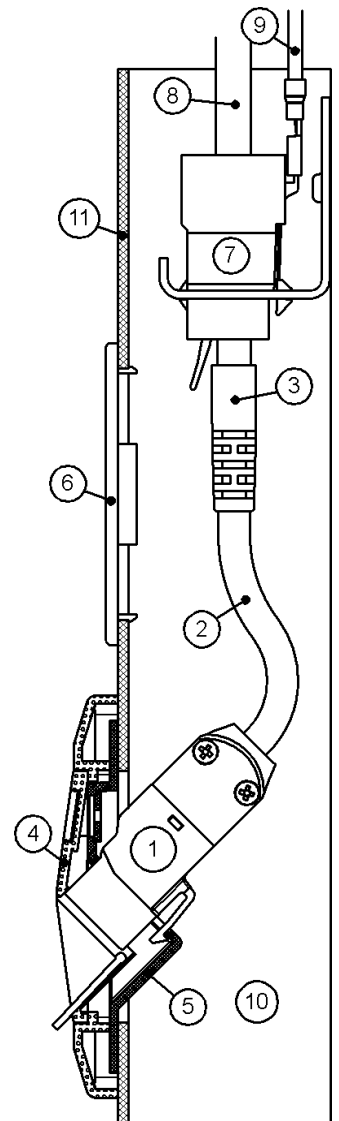
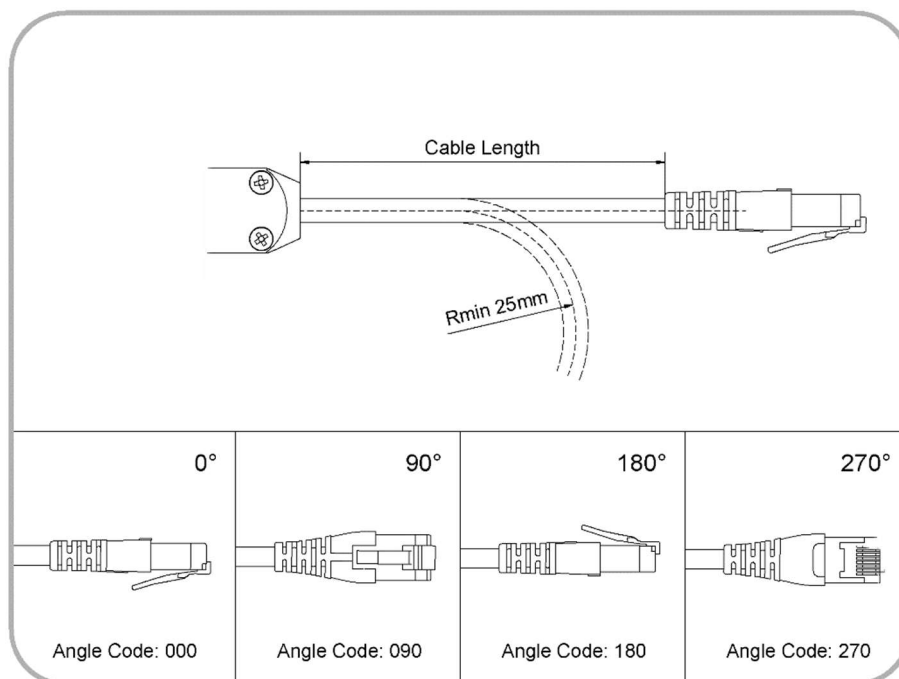

Figure 3 Keystone network isolator in a cable duct
Figure 6. Cable length, as well as angle codes.
Figure 3 shows a typical assembly within a cable duct (10), with cover (11). The Network Isolator EN-66K (1) is shown installed in a Keystone-compatible wall outlet, which usually consists of a support frame (5) and a plastic front panel (4). The RJ45 plug (3) of the Network Isolator is to be inserted into a RJ45 jack module termination (7) at the end of the permanently installed data cable (8). When retrofitting the Network Isolator EN-66K (1) into network channels, the existing RJ45 jack module from the wall outlet can be shifted back within the cable duct (10) and used as the connection to the Network Isolator.
The transmission properties of permanent network installations fitted with EN-66 Network Isolators can be checked with cable certification devices which are suitable for testing electrically isolated cable sections. To be able to conduct such an inspection, the test equipment must be configured in an AC wire-map mode. The entire cable route, including the Network Isolator, can be tested to TIA/EIA-568 Cat 6A or ISO 11801 Class E_A as a Channel-Link. Testing of the cable shielding and the conductor resistance is not possible in this mode. If however, these tests are required, or if the quality of the cable route itself needs to be tested (without the Network Isolator), then testing can be performed by bypassing the Network Isolator, and connecting directly to the RJ45 socket ⑦, set back within the cable duct, as indicated in Figure 3.
The length of the flexible cable stub ② (see Figure 3) of the EN-66 Network Isolator is available in selected lengths from 30 mm to 10 m (inclusive). Refer to Figure 6, as well as the table in section 0. It is recommended that this length be kept to a minimum. When compared to a fixed installed cable, this flexible cable stub may be more susceptible to near end crosstalk (NEXT) and alien crosstalk (AXT). The flexible cable stub itself generates a small, but length-dependent amount of insertion loss (IL).
For flexible cable stub lengths between 30 mm and 500 mm (inclusive), the plug angle can be chosen, easing mechanical constraints in certain assembly configurations, and removing impermissible torsion strains from the cable assembly. Refer to Figure 6. The manufacturing tolerance for the plug angle is $\pm 20^\circ$.
When placing orders for EN-66, please specify the exact Order Code (OC). The order number is a hyphenated concatenation of the Article Number (A10068 for EN-66K, or A10069 for EN-66S), the Length Code for the desired cable length (see section 0 above), and the Angle Code for the desired plug angle (see Figure 6). For flexible cable stub lengths greater than 500 mm, the EN-66 will always be manufactured with a plug angle of 0°, and the Angle Code can be omitted for such orders.